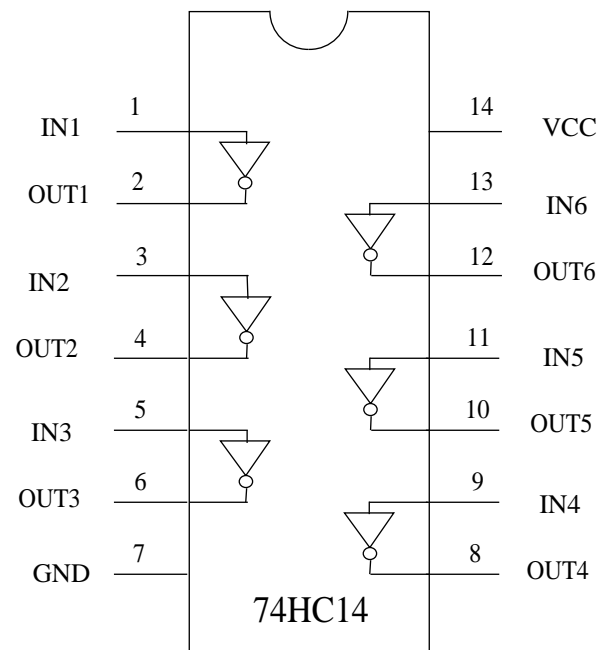

Figure 2: pin assignments for the 74HC14 inverter chip.
- (4-2) Following your design from Pre-Lab Exercise 4-1, construct the clock using the 74HC14 inverter chip obtained earlier. Figure 2 shows the pin assignments for the inverter chip. Use any two of the inverters in the chip, and leave the others unconnected. Do not yet connect the clock output v_{CLK} to the clock input of the counter. Rather, use one channel of the oscilloscope to observe the oscillator output v_{OSC} , and trigger the oscilloscope from that channel. Use the other channel to observe v_{CAP} and the clock output v_{CLK} . Compare what you observe with the oscilloscope to the graph prepared during Pre-Lab Exercise 4-2 to determine whether or not the clock is functioning properly. In particular, the clock output v_{CLK} should remain between 0 V and 5 V so as not to damage the counter which it drives.